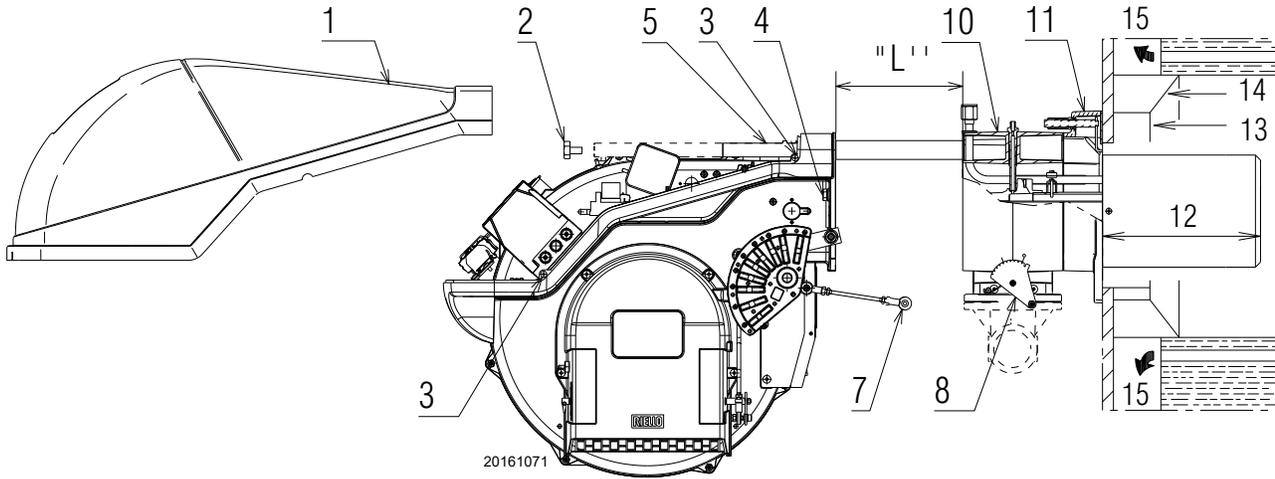
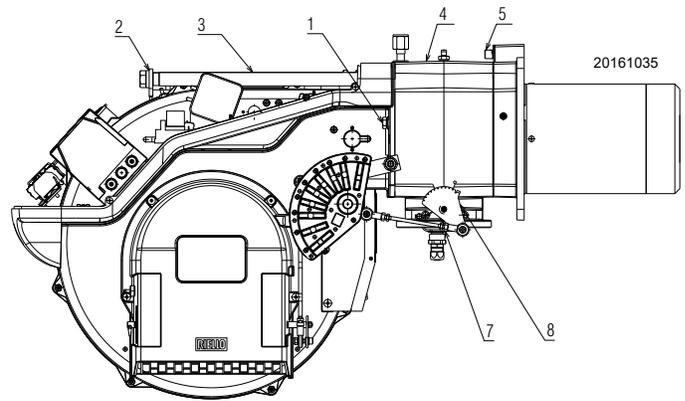

Fig. 8
Fig. 13
- For boilers with front flue passes 15)(Fig. 8) or flame inversion chambers, protective insulation material 13), must be inserted between the boiler refractory 14) and the blast tube 12).
Once this operation has been carried out (if it was required), secure the flange 11)(Fig. 8) to the boiler plate, inserting the gasket 9).
Detach the combustion head from the burner (Fig. 8, page 16):
- refit the burner to the slide bars 3)(Fig. 13) at approximately 4" from the sleeve 4) - burner positioned as shown in Fig. 8, page 16 - insert the flame rod cable and the ignition electrode cable and then slide the burner up to the sleeve so that it is positioned as shown in Fig. 13.